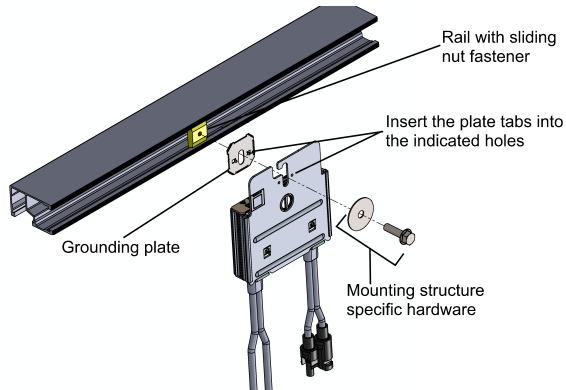

Figure 4: Power Optimizer installation and grounding using a grounding plate
- **For mounting on rails with sliding nut fasteners:** If the star washer cannot be used, use the SolarEdge grounding plate (purchased separately) between the railing and the flat side of the mounting bracket. Use mounting specific hardware as needed. Apply a torque of $9.5 \text{ N}\cdot\text{m}$ / $7 \text{ lb}\cdot\text{ft}$. See Figure 4.